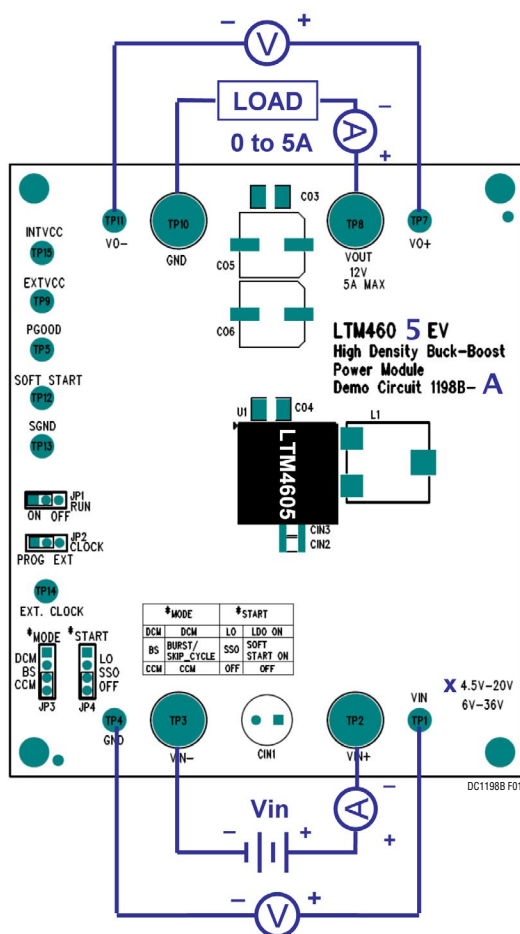

Figure 1. Test Setup of DC1198B-A
2. With power off, connect the input power supply, load and meters as shown in Figure 1. Preset the load to 0A and V_{IN} supply to be less than 20V.